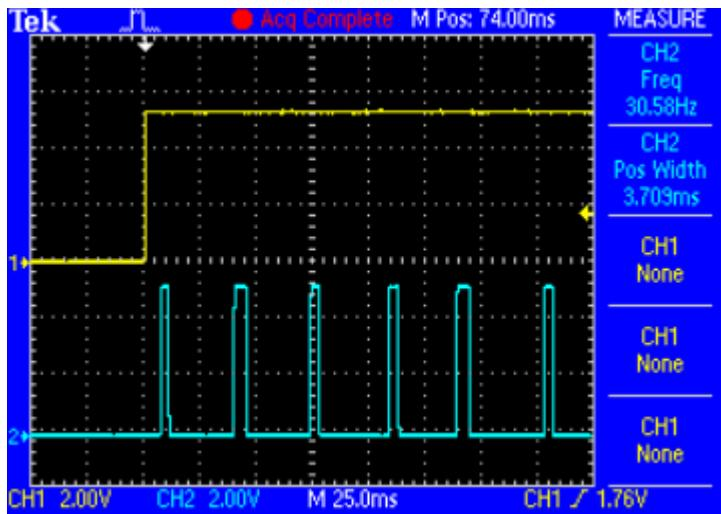

Figure 1. An oscilloscope trace showing a Test synchronisation signal as channel 1 (yellow) and a Frame synchronisation signal as channel 2 (blue).
- Although a camera may be providing 30 frame per second, this does not mean the first frame in the test will arrive at time 33ms, because the test start is not synchronised with frame capture. So, for example, the test might start 10ms after a frame was last captured, which would mean the first frame in the test would arrive at time 23ms, the second at time 56ms (i.e. 33ms later), etc. This can be seen in figure 1, where the first frame (first blue pulse) arrives a little after the test start (yellow trace going high).
- Although a camera will generate frames at a strict frequency, the software may not 'capture' them immediately. The path from the camera, through the physical connection to the computer (usually USB), into Windows's video processing sub-system and finally into ANY-maze, is complex and ANY-maze won't necessarily receive frames at exactly 33ms intervals. Over time, the average inter-frame interval will indeed be 33ms, but the individual frame times may differ from this by as much as $\pm 4\text{ms}$ (see figure 2). This can also be seen in figure 1 (above), where the oscilloscope reports channel 2 frequency as 30.58Hz, whereas the camera is generating the frames at exactly 30Hz.